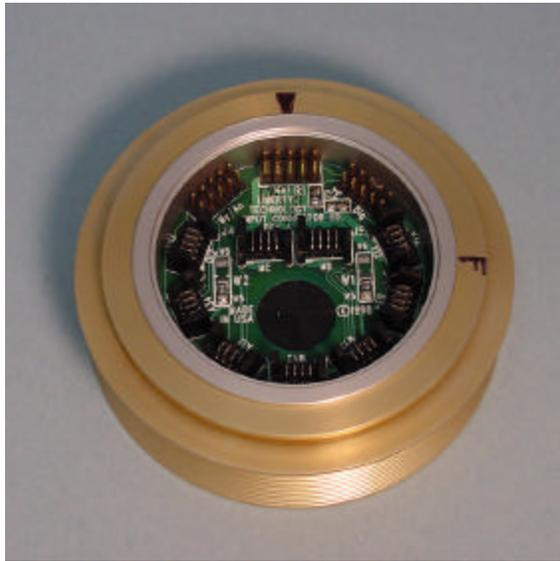
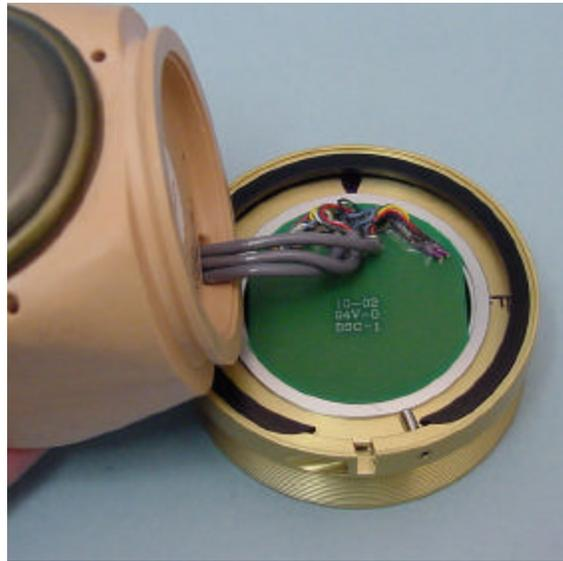

Figure 3. There are three sets of pins on the Input Connector Board. Center the middle set on the mark on the Lamination Collar.
Figure 4. The three plugs on the Cover Board have been placed over the pins on the Input Connector Board.
1. **Attach just the Collar.** Referring to Figure 3 install the Input Connector Board into the Lamination Collar and then add the Cover Board. (You may save time if you install the input cables to the Input Connector Board first.) Figure 4 shows the addition of the Clamp Ring. When the Clamp is screwed loosely in place, it should look like Figure 1.